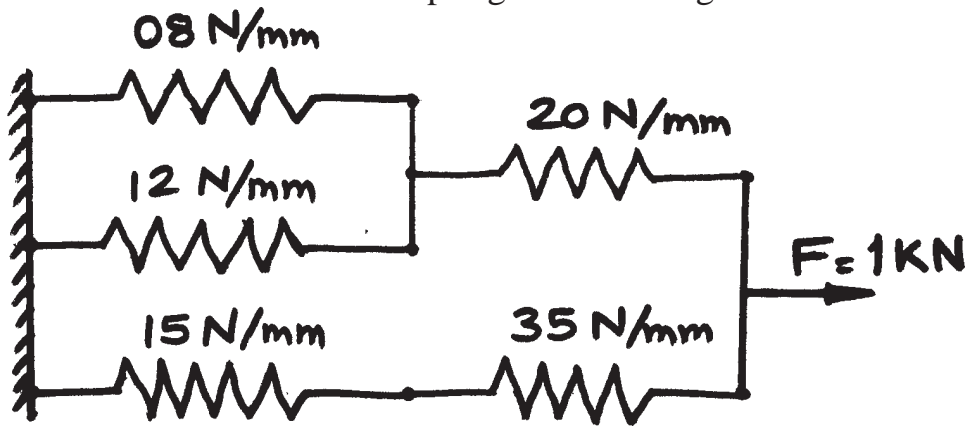

Figure 1, Q 5(a)
- Q4)** A portal frame ABC shown in the figure 1 is subjected to uniformly distributed load of 20 kN/m over BC. Draw B.M. diagram. EI is uniform. Use flexibility method for analysis. AB = 4m, BC = 3m. [16]
- Q5) a) Find the deflection of each springs shown in figure 1. [6]